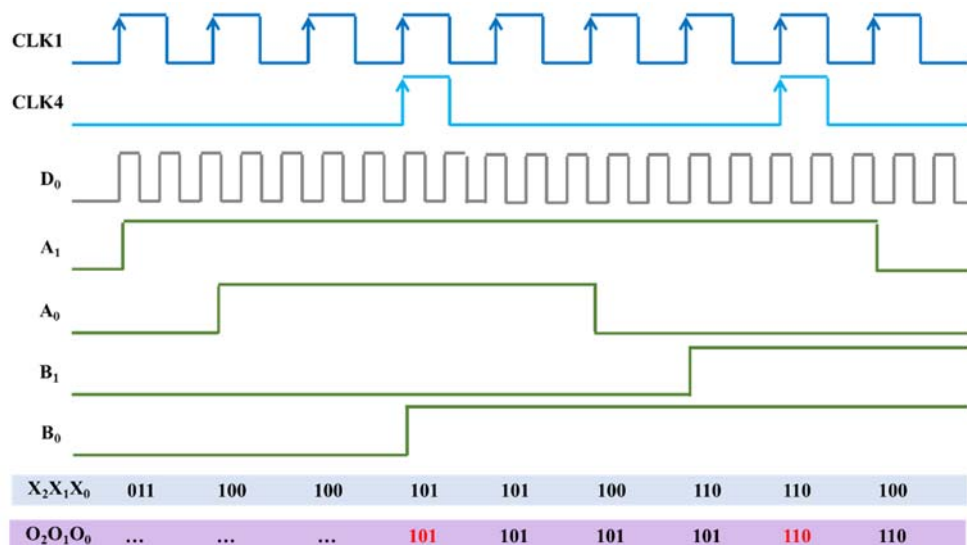

Fig. 2. Exemplary timing diagram.
- Example. **A** = 01, **B** = 10, then **X** = 100. See Fig. 2.
D_0 is distributed to and stored in the intermediate register (R_I) as shown in Fig. 2.
- **Demonstration:** 29 March (F), Lab hour
- Timing diagram (Fig. 2) needs to be plotted on a screen.
- **Demonstration:** 19 April (F), Lab hour
- **Demonstration:** 26 April (F), Lab hour
- **Final report** (max. 10 pages, *template* given below): 28 April (S), 11:59 PM